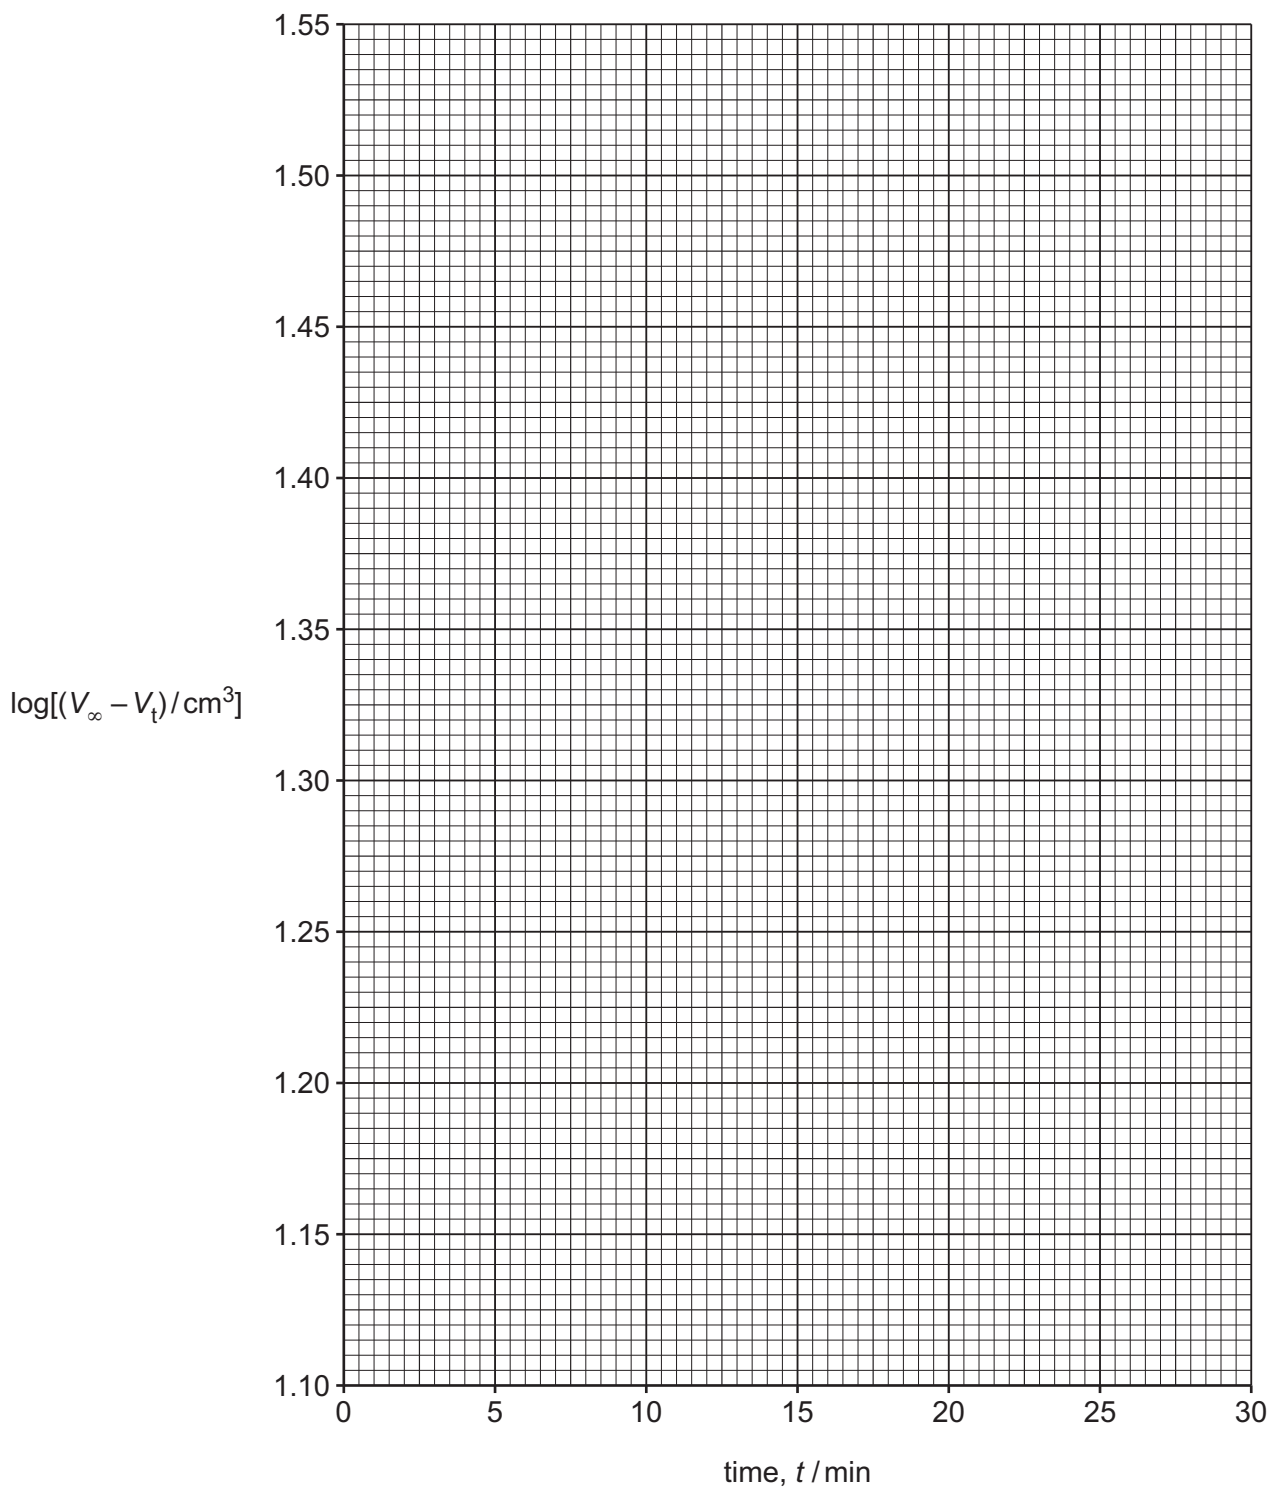

Fig. 2.1
- (ii) Plot a graph on the grid in Fig. 2.1 to show the relationship between $\log[(V_\infty - V_t)/\text{cm}^3]$ and time, t . Use a cross (×) to plot each data point.
- (iv) Determine the gradient of your line of best fit in Fig. 2.1.
- (d) The equation of the straight line plotted in Fig. 2.1 is shown.
- (e) Use your graph in Fig. 2.1 to state whether you consider the results to be reliable. Give a reason for your answer.
Sketch a suggested line of best fit on Fig. 2.1 for the second experiment. [1]